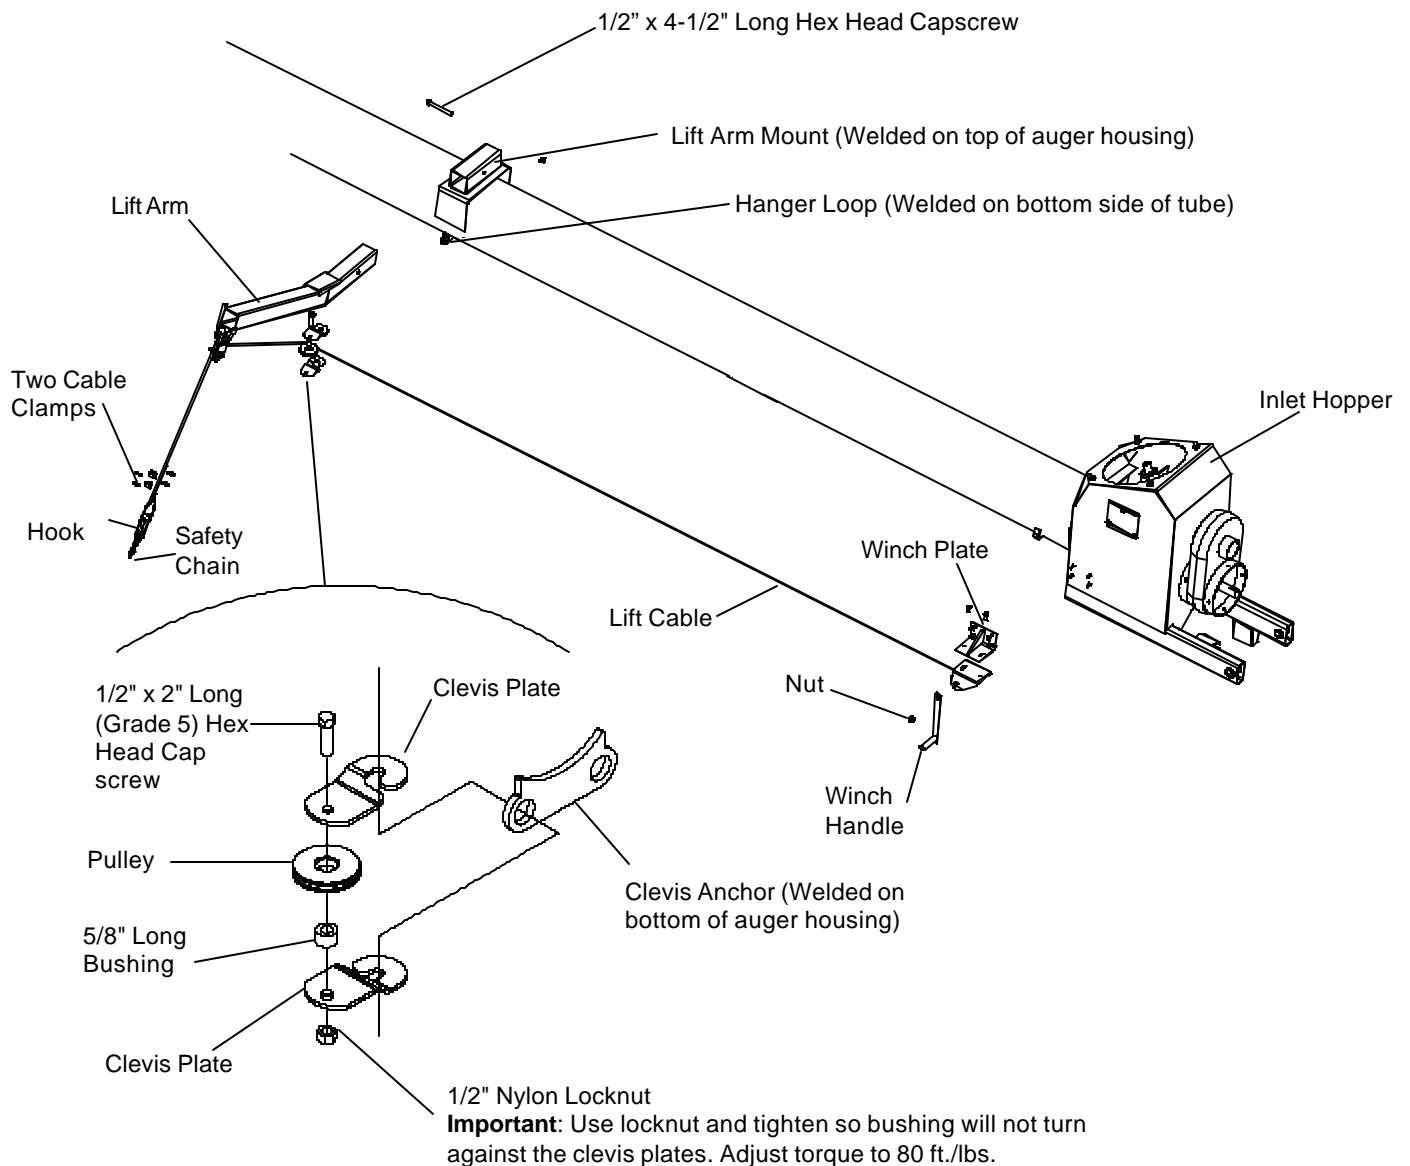

Fig. 15
- Attach winch plate to inlet hopper using four (4) 3/8" x 1" long hex head capscrews and locknuts.
- Hook clevis plates through the hanger loop on underside of auger housing as shown in Fig 15 below. Assemble 5/8" long bushing and cable pulley between the clevis plates using 1/2" x 2" long (grade 5) hex head capscrew and nylon locknut. After tightening the locknut, check to see that the clevis plates are securely hooked on the hanger loop and can't come off.